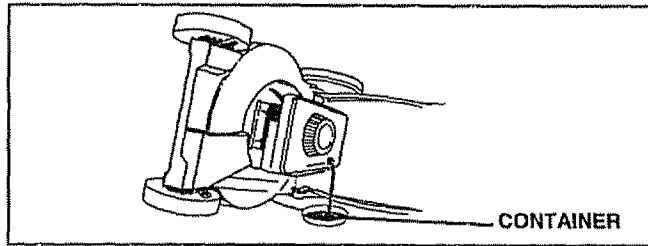

FIG. 10
**NOTE:** Although multi-viscosity oils (5W30, 10W30 etc.) improve starting in cold weather, these multi-viscosity oils will result in increased oil consumption when used above 32°F. Check your engine oil level more frequently to avoid possible engine damage from running low on oil. Change the oil after the first two hours of operation and every 25 hours thereafter or at least once a year if the lawn mower is not used for 25 hours in one year. Check the crankcase oil level before starting the engine and after each five (5) hours of continuous use. Add SAE 30 motor oil or equivalent. Tighten oil plug securely each time you check the oil level.
**TO CHANGE ENGINE OIL** (See Fig. 10)